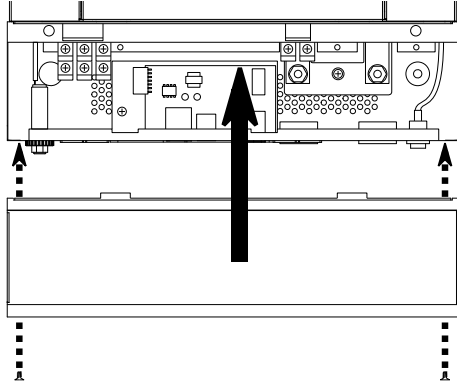

*Figure 9: PV array cable connection*
4. Connect the positive and negative cables from the PV array to the respective PV terminals on the inverter (*Figure 9*). Tighten the terminal clamps with a torque of 1.2 Nm